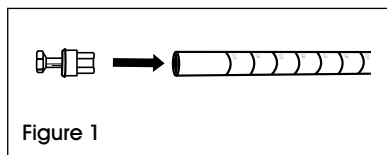

Figure 1
1. Make sure post is positioned as shown. (See Figure 1)